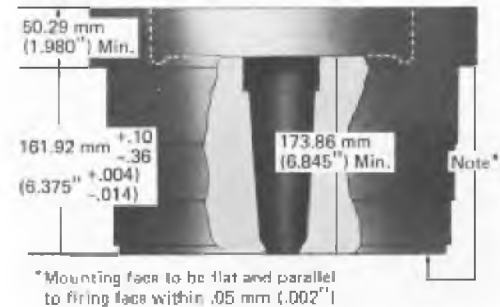

Fig. 2-7 - Rework Limits
The following paragraphs contain recommendations for tooling and procedures to meet the required rework limits, Fig. 2-7.
5. The distance between the underside of the flange and the gasket surface of the fireface must be maintained, Fig. 2-7. To hold this dimension within specification, it will generally be necessary to machine the fireface and underside of the flange simultaneously because of the tight requirement on parrallelism between tile underside of the flange and the fireface, Fig. 2-8. However the cut on the underside of the flange should be held to a minimum within the allowable range of the fireface to flange dimension.